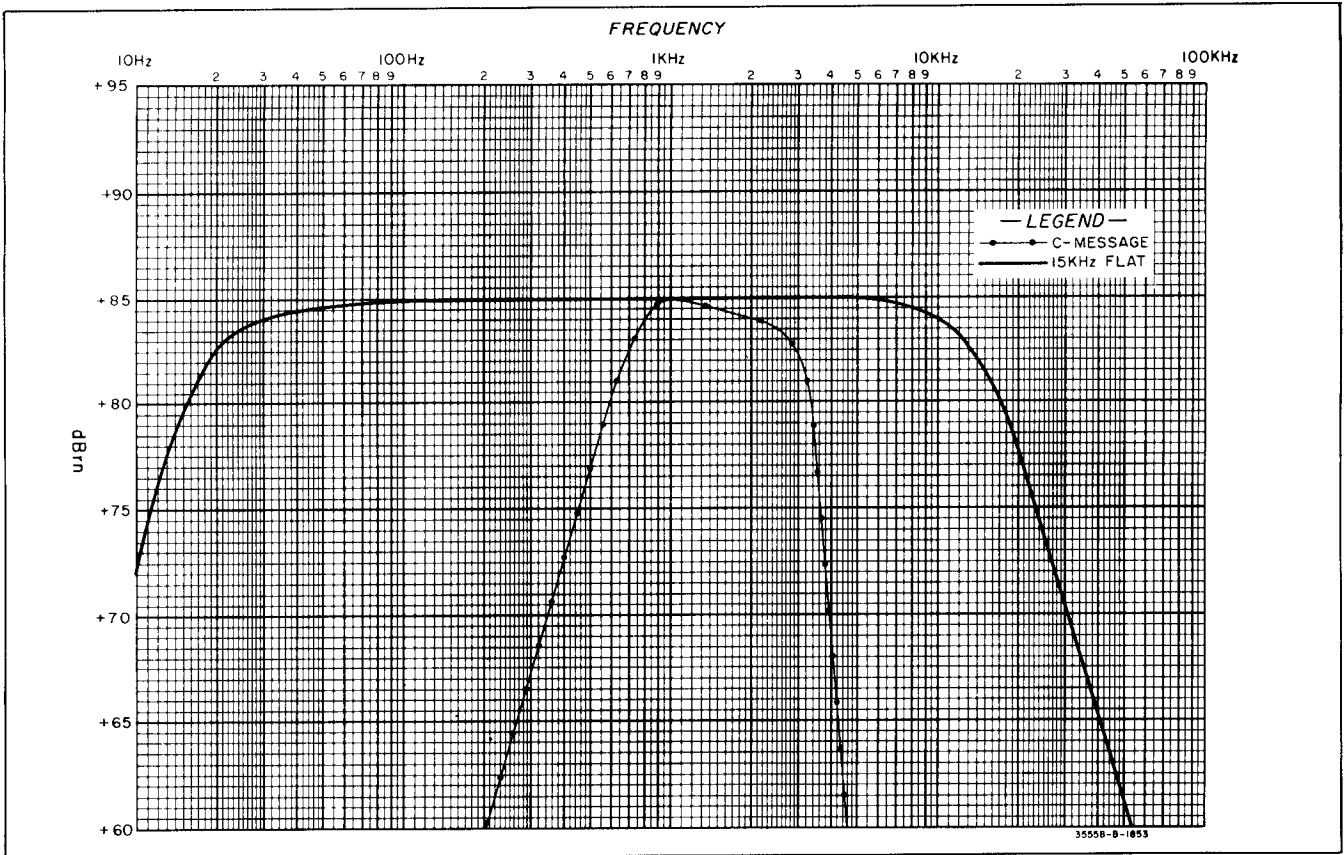

Figure 3-1. C-MSG and 15 kHz FLAT Weighting Curves.
3-30. **C Message.** The C message filter has a frequency response which simulates the effects of noise on the human ear. This weighting is also used to evaluate the effects of noise on voice-grade data circuits. The frequency response of this filter is shown in Figure 3-1.
**3-32. 15 kHz Flat.** The 15 kHz Flat filter is used for unweighted measurements of noise on radio and television studio-transmitter and studio-remote audio links. The frequency response of this filter is shown in Figure 3-1.